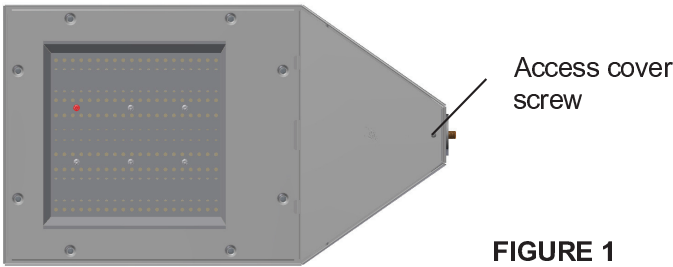

FIGURE 1
3. Remove access panel by turning access cover screw CCW (counterclockwise). See Figure 1.